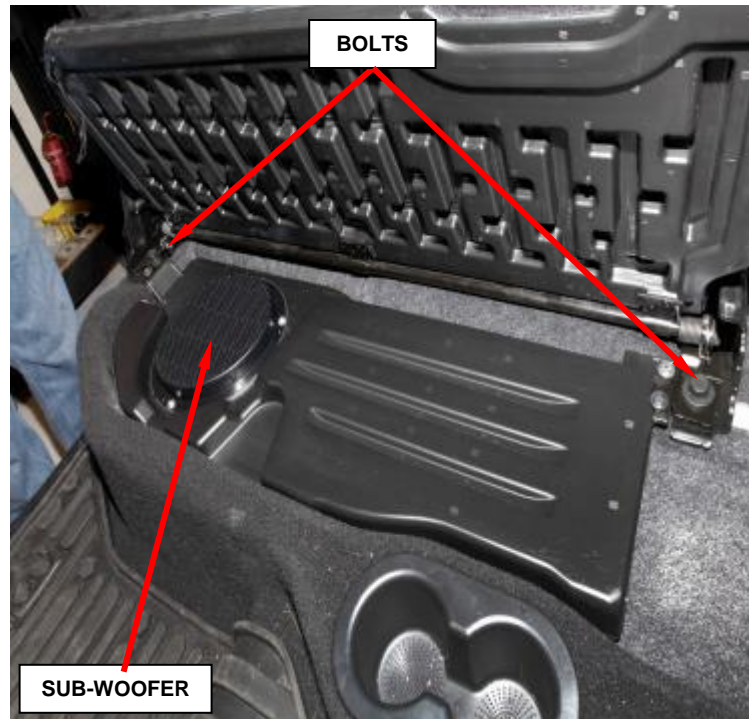

Figure 4 – Sub-Woofer
c. Remove the two rear seat front bolts that attach the sub-woofer and remove the sub-woofer, if equipped (Figure 4).